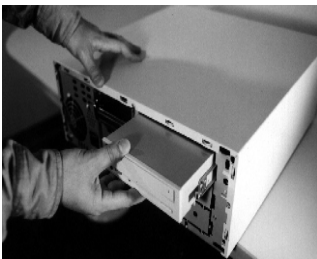

Fig:7
**B.** Slide CD-ROM in to 5.25" bay and snap in to place (Fig 7).